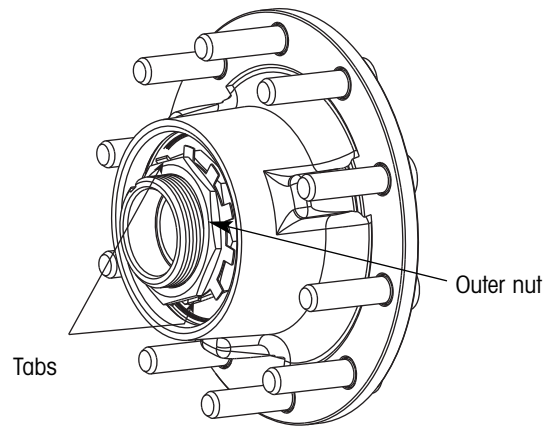

Figure 9. Straighten the lockwasher tabs
5. Using a screwdriver or other suitable tool, straighten the two opposing flattened lockwasher tabs until they clear the outer nut (figure 9).